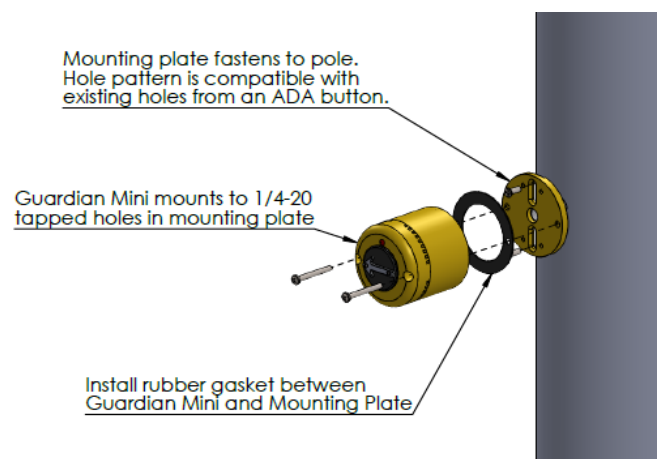

Figure 2
| B | Added Figure 2 and reference to Gasket in 3.2.2.8 | 5/2/17 |
8. Mount the Guardian Mini to the Mounting Plate using the 1/4-20 x 3 ½” screws and gasket removed in step 2 above. See Figure 2.